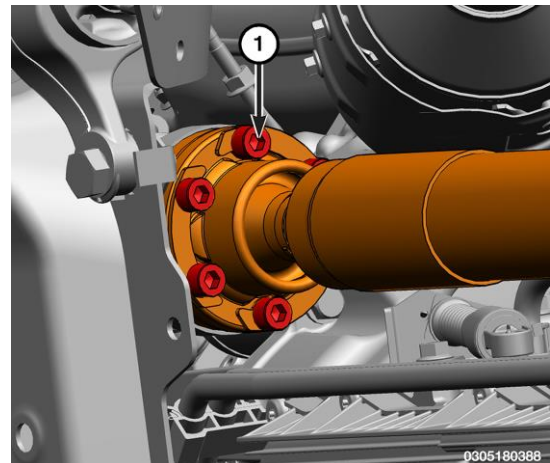

Figure 18 – CV Joint Fasteners
42. Remove the fasteners (1) from CV joints (Figure 18).